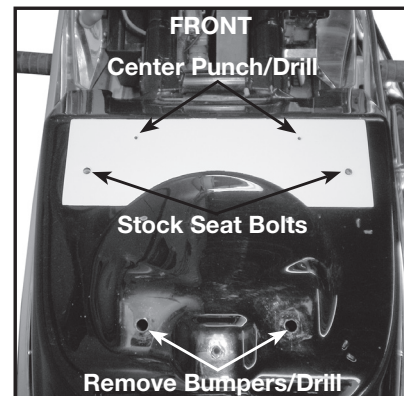

FIG. 1
4. Using your two stock 6mm seat bolts, position template as shown (Fig. 1).
5. Center-punch the two small holes that are $5\frac{7}{8}$ " on center as shown (Fig. 1).
7. Remove two grommets from rear of fender and drill holes to $3/8$ " (Fig. 1).